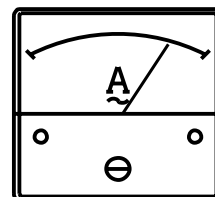

Figure 47. Ammeter (Load)
11. Observe the generator's ammeter (Figure 47) and verify it reads the anticipated amount of current with respect to the load. The ammeter will only display a current reading if a load is in use.